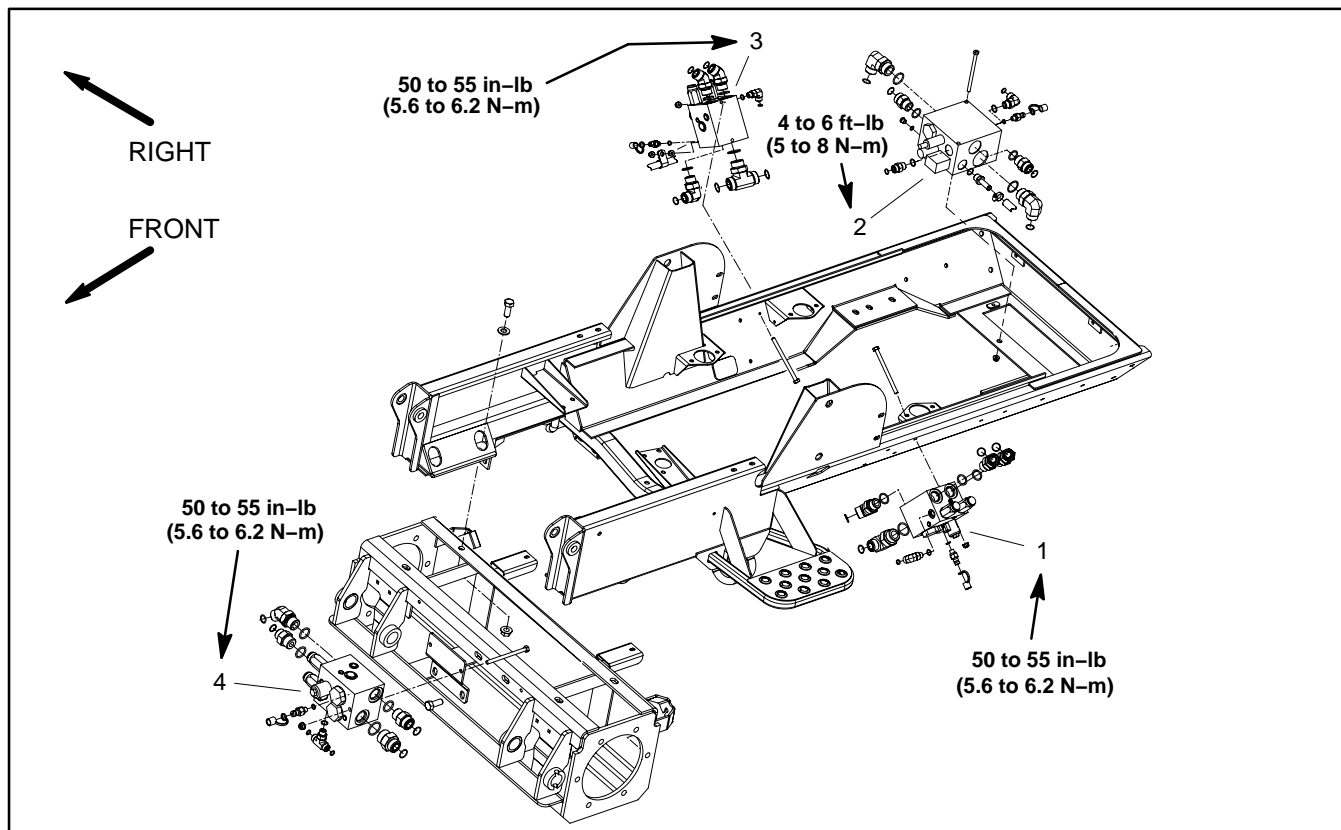

Figure 50
B. Torque solenoid nut to specification identified in Figure 50. Over-tightening may damage the solenoid or cause the valve to malfunction.